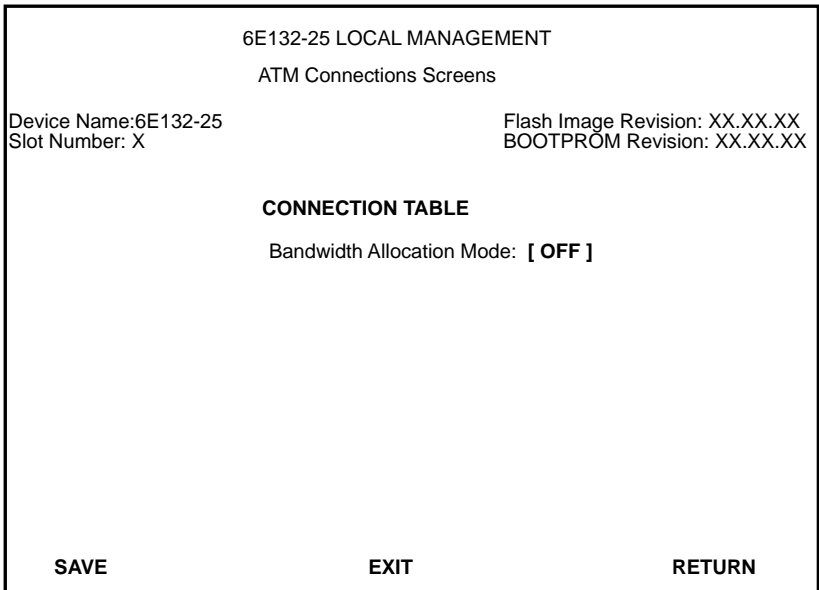

Figure 3-3 The ATM Connections Screen
2. Press ENTER; the ATM Connections screen, Figure 3-3, displays.